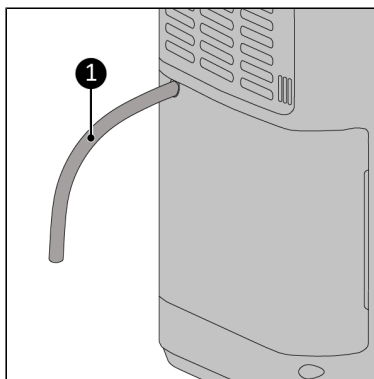

Figure 19.
2. Connect a suitable water hose (Figure 19) to the drain pipe with a clamp.